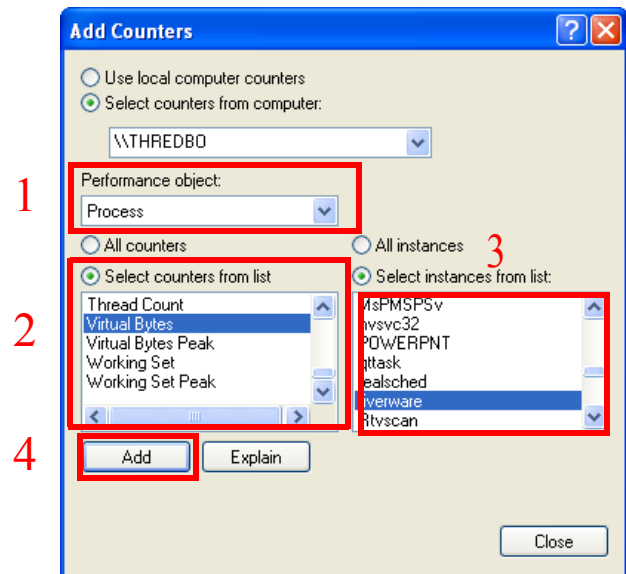

Figure 5: Perfmon Add Counters dialog
There may or may not be counters defined. To add counters, click on the plus icon  to open the **Add Counters** dialog, Figure 5. In the **Add Counters** dialog, shown to the right, select a **Performance Object** (1), highlight the counter from the list (2), select the **instance**, i.e. riverware (3), click **Add** (4). Repeat for other counters. Click **Close** when finished.